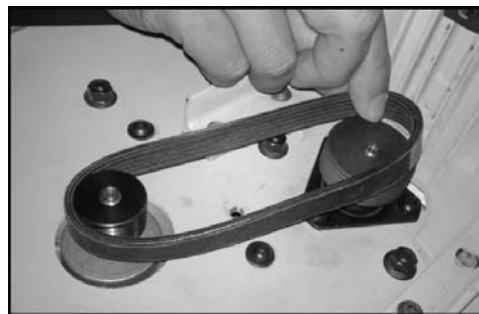

Figure 3
3. Loop the new belt on to the drive pulley. **See Figure 3.**